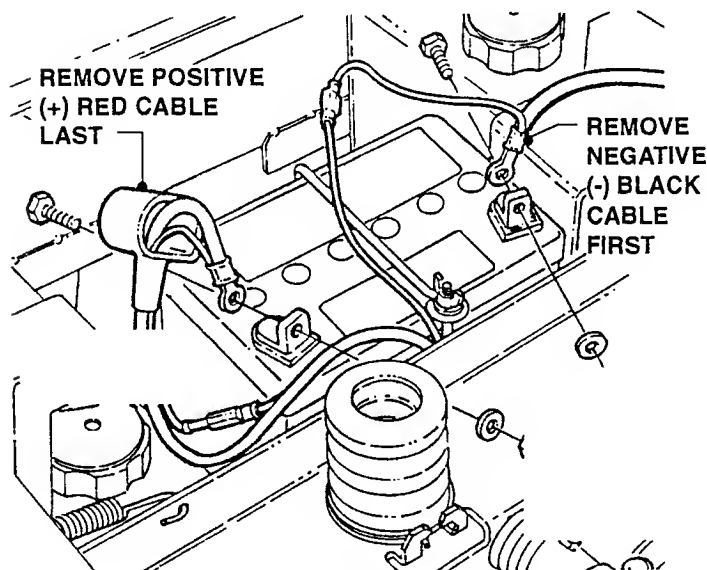

FIGURE 4.2
- A. Disconnect the battery. Remove NEGATIVE (-) BLACK Cable first and POSITIVE (+) RED Cable last. Secure cables away from the battery. See Figure 4.2.